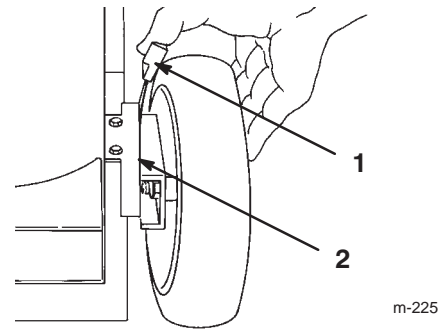

Figure 16
3. Set all 4 wheels in to the 2-3/4 in. (70 mm) cutting height setting (Fig. 16).
3. Squeeze the cutting height adjuster lever toward the wheel (Fig. 16) and move it to the desired setting.